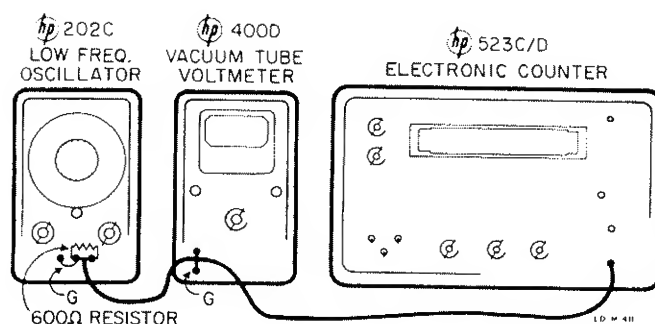

Figure 4-2. Calibration Test Setup
1) Connect the 202C to an ac voltmeter and a 523D Electronic Counter as shown in figure 4-2. Substitute a 403A Transistor Voltmeter for the 400D/H/L in figure 4-2.
- b. Connect the 202C to a 400D/H/L AC Voltmeter and a frequency measuring device (counter or frequency standard) as shown in figures 4-2 or 4-3.
- a. Switch 200CD RANGE to 1K. Connect the equipment as shown in figures 4-2 or 4-3.